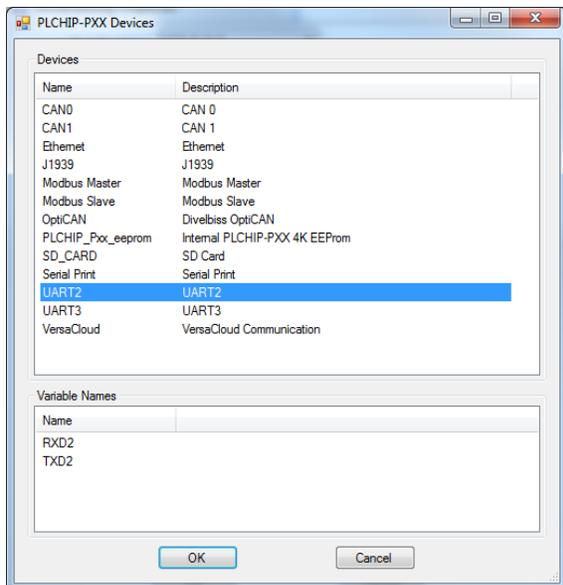

Figure 2-19 - Select UART for Serial Port
4. Locate **UART2** or **UART3** in the *Devices* pane. Click to select (highlight) the **UART#** required. Refer to Figure 2-19. Click **OK**. The *UARTX Properties* dialog will open.